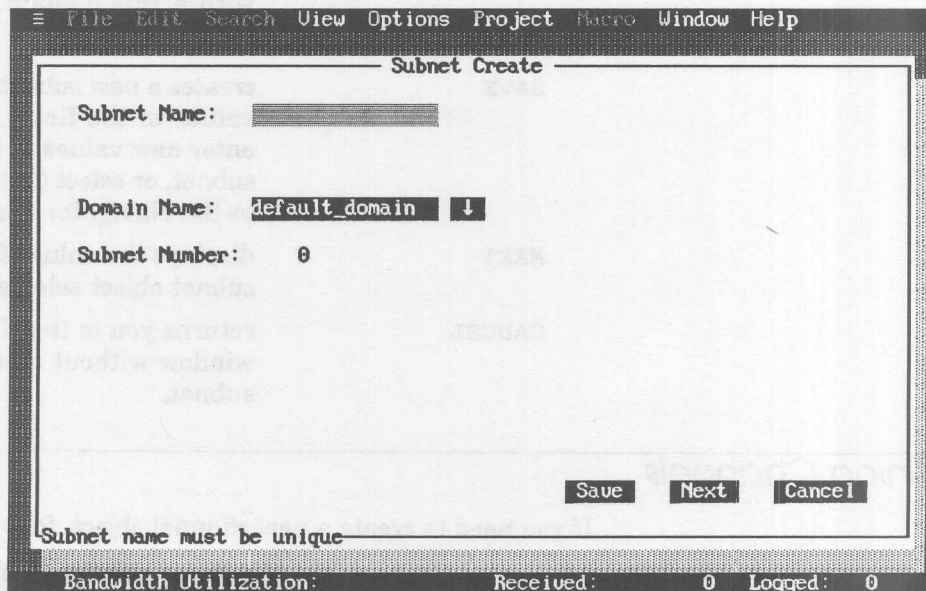

Figure 10-7. Subnet Create Window
- 4 Select the Create command button to open the Subnet Create window (see figure 10-7).